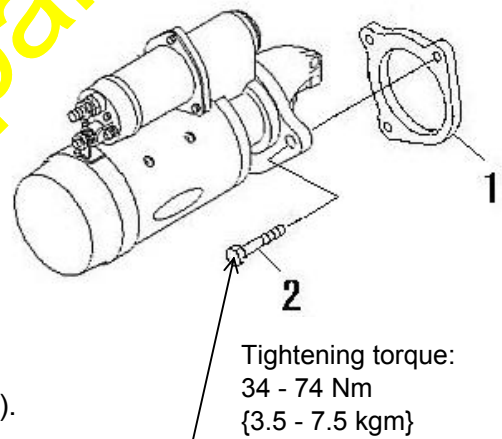

Fig. 9
(2) Removal of the starting motor (Fig. 9)
1) Remove 3 pcs. of the bolts (2).
(3) Modification of the mounting section of the starting motor and reinstallation of the modified starting motor (Fig. 9 and Table 4)